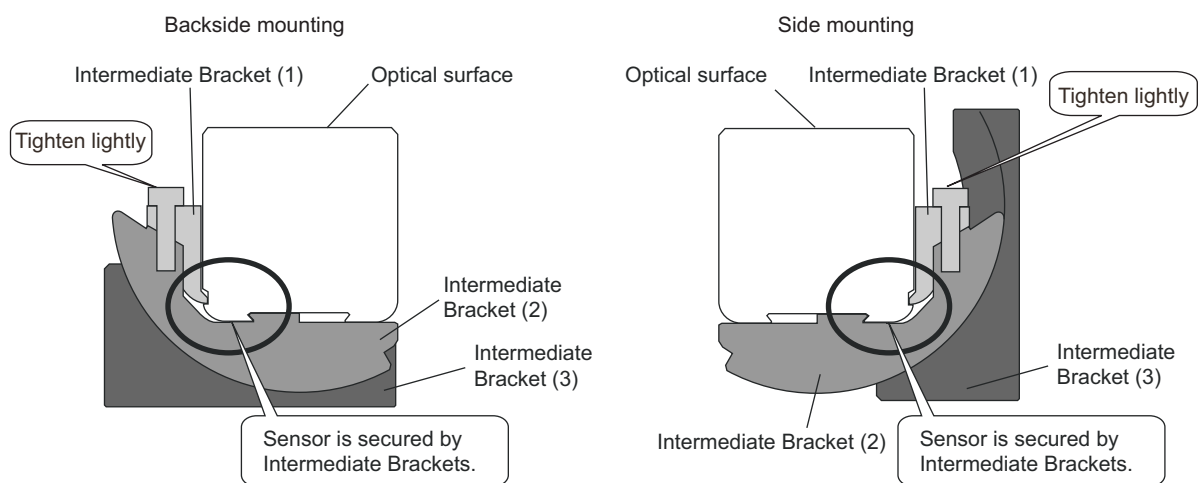

Figure 26
2. Mount the Intermediate Bracket to the case, and lightly tighten the hexagon socket head cap screw (M3 x 12) of Intermediate Bracket (1). (Figure 26)